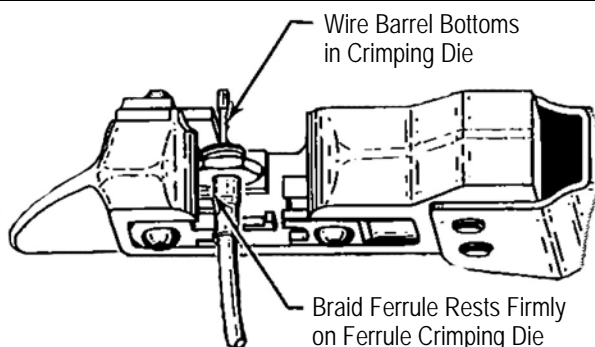

Figure 5
3. Place the jack or plug crimp end in the crimping dies as shown in Figure 5.
4. Make certain the wire barrel and braid ferrule of the crimp end are resting firmly on the crimping dies. See Figure 5. Hold the assembly in place and complete the crimp.